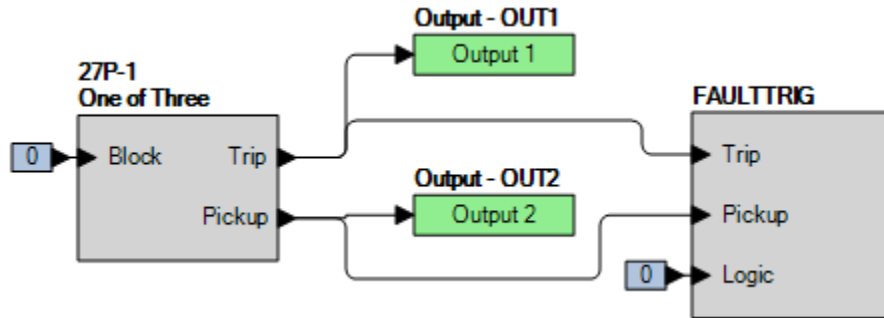

Figure 66-1. BESTlogicPlus Settings
Step 2: Use BESTCOMSPi.us to configure the BESTlogicPlus programmable logic shown in Figure 66-1.
Step 4: Prepare to monitor the 27P-1 function operation. Operation can be verified by monitoring OUT2 (see Figure 66-1).